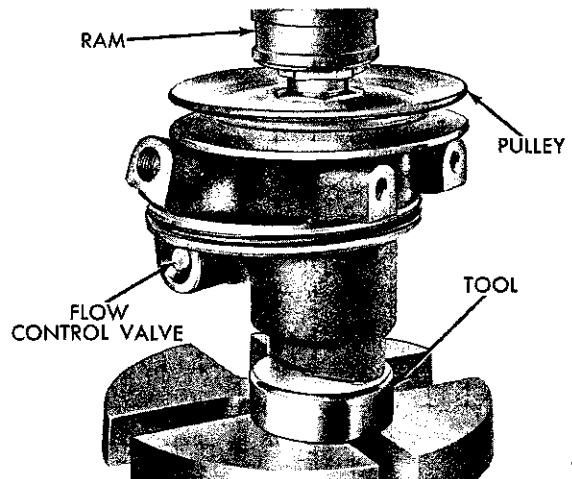

Fig. 7—Installing the Pump Pulley
(8) Support the pump body on the holding fixture, Tool C-3643, with the tool dowel pins in the pump bolt holes so that the pressure will be absorbed by the lower end of the pump shaft (Fig. 7).
(6) Install the plug retainer ring with the sharp edge of ring **up**.
(7) Install the relief valve.
(8) Install pulley (Fig. 7).
(9) Install a new pump body "O" ring, new reservoir gasket and reservoir and brackets.
(23) Install the spanner nut and tighten to the exact original position in the housing as indicated by the pin punch marks placed on the pump body and spanner nut at disassembly.
(24) Install the flow control valve as outlined under "Flow Control Valve Installation".
(25) Install the pump pulley (Fig. 7).
(26) Install a new "O" ring on the pump body and install the reservoir and pump brackets.